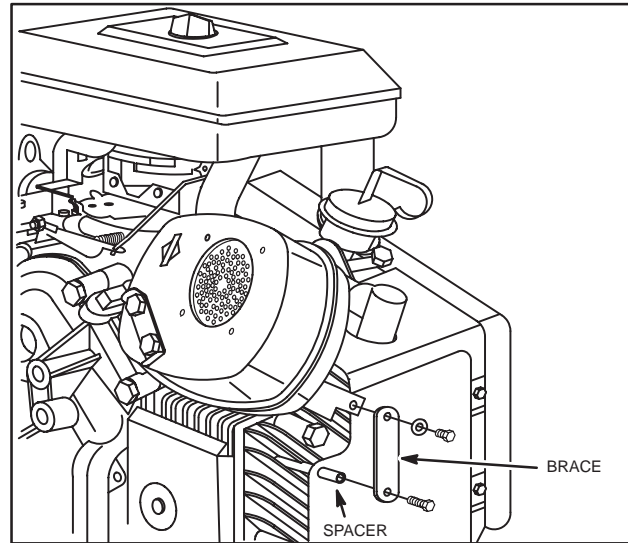

Fig. 23 – Install Brace
3. Install muffler brace straps and spacers, Fig. 23.